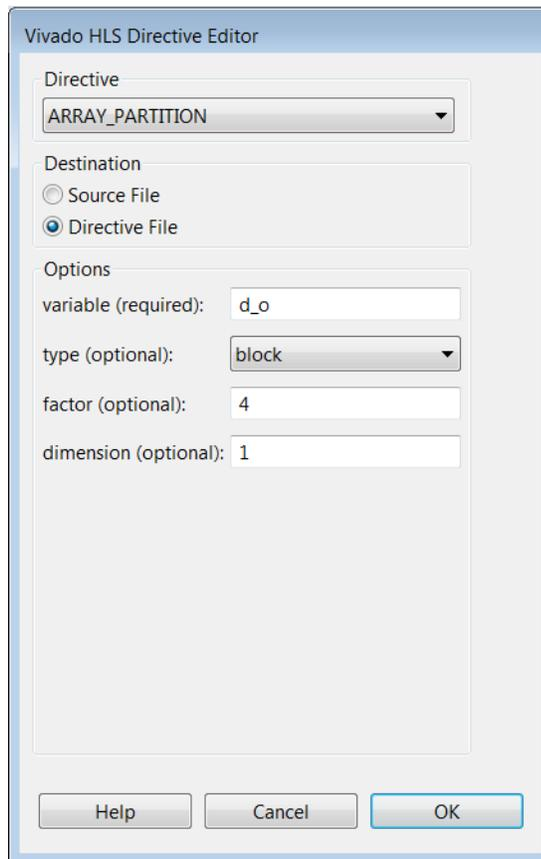

Figure 4-21: Directives Editor for Partitioning Array d\_o
- d. With the Vivado HLS Directive Editor as shown in Figure 4-21, click **OK**.